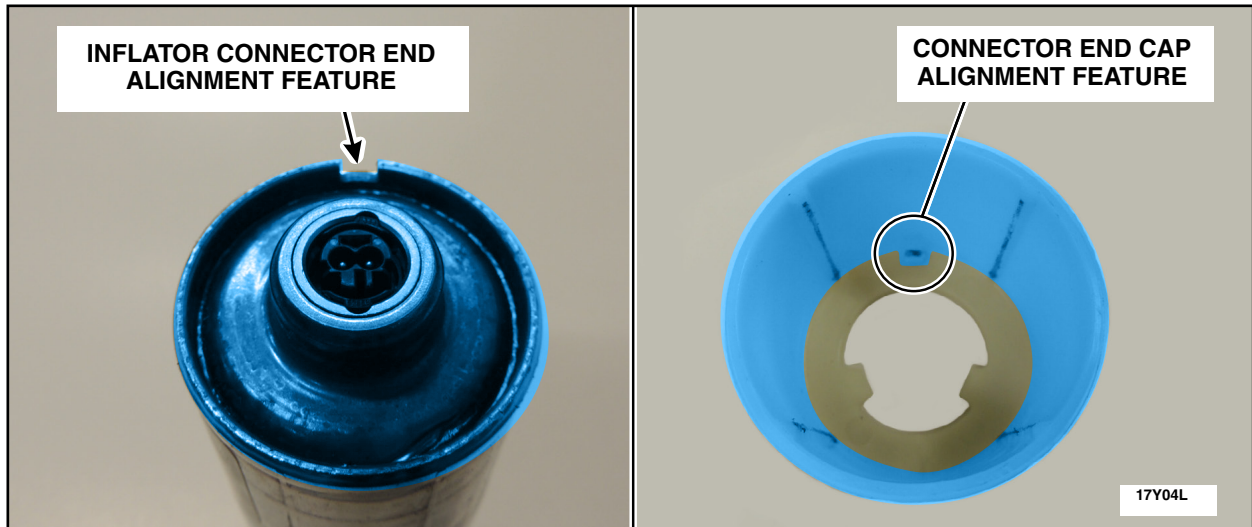

FIGURE 7
8. Align and install both inflator end caps. See Figures 7 and 8.